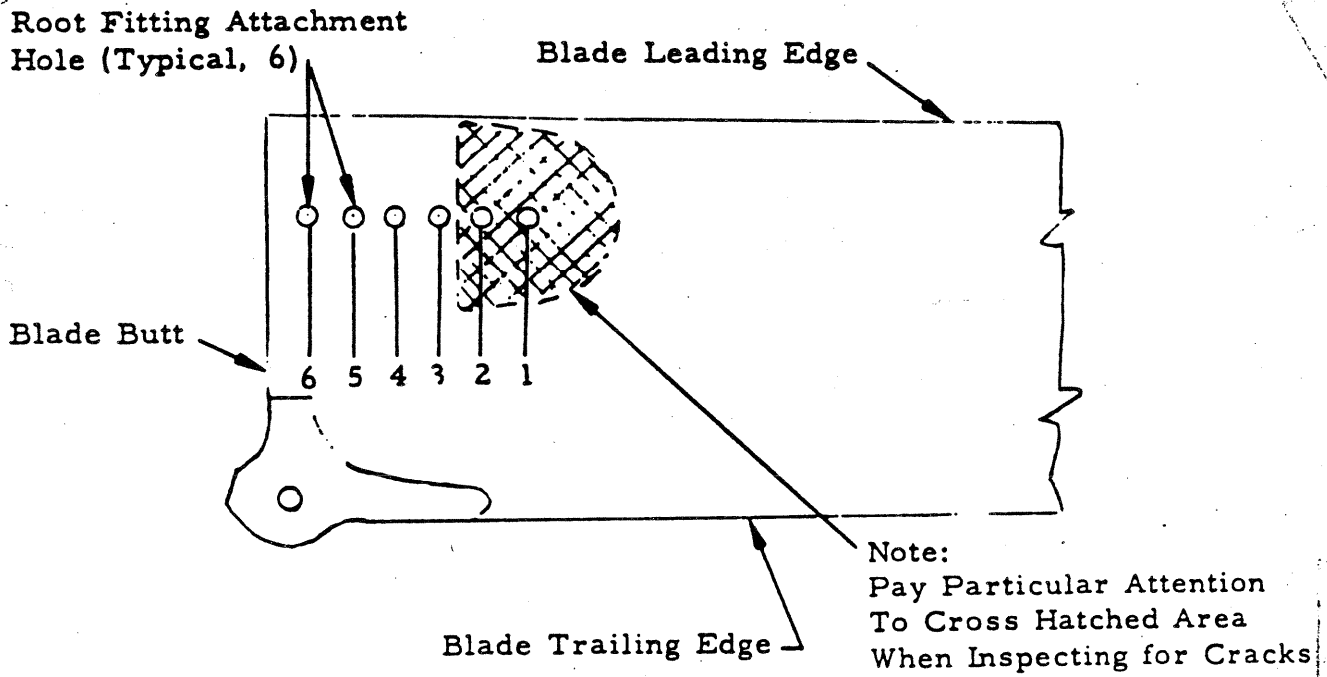

Figure 2. Main Rotor Blade Root Fitting Removed
j. Inspect for cracks, holes 1 through 6, paying particular attention to 1 and 2. (See Figure 2)